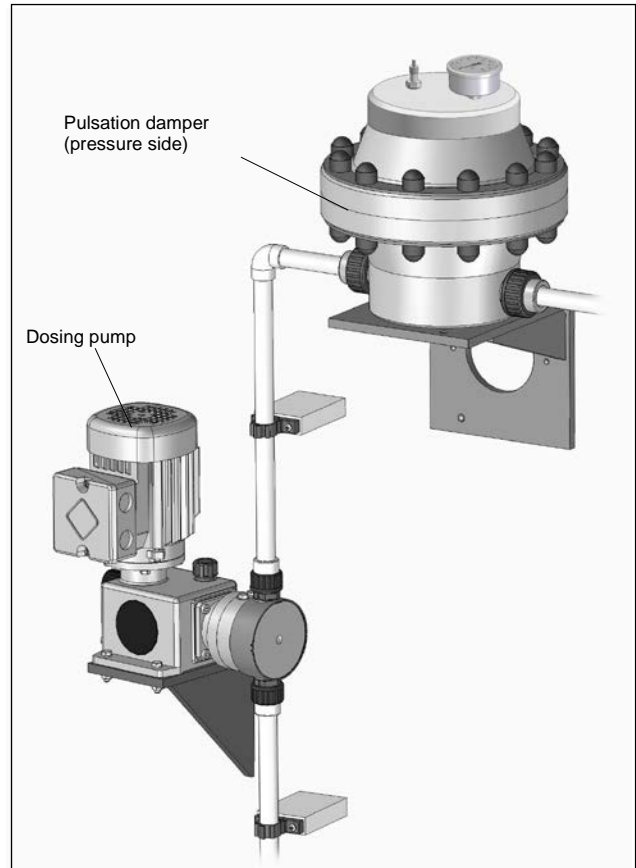

Fig. 06 Example of an installation
The diaphragm pulsation damper is mounted on the pressure side of the pump (see Fig. 06). In principle pulsation dampers can also be installed on the suction side; in this case, however, pulsation dampers without separating diaphragm are normally used. The following is to be observed:
- The weight of the pulsation dampers must not be applied to the pipes. Suitable brackets are to be used (see Fig. 06).